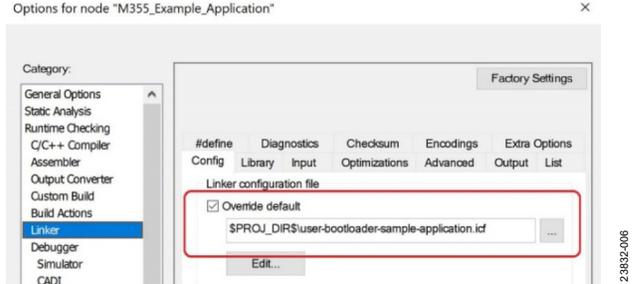

Figure 5. Specify Custom Linker Configuration File
Loading the custom linker file can be achieved from within the IAR Embedded Workbench® environment by accessing the **Linker > Config** tab, as shown in Figure 5. See the Conversion Steps section for the full procedure.
4. Select the custom linker configuration file from within the IAR Embedded Workbench by accessing the **Linker > Config** tab as shown in Figure 5. Select the **Override default** box, and browse for the **user-bootloader-sample-application.icf** file. This changed linker configuration file ensures that the user bootloader and the user application are placed correctly according to the user bootloader or user application model.